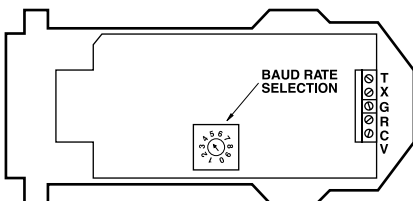

Figure 2. Baud Rate Setting Switch.
3. Set the baud rate switch to the desired setting as shown in **Table 1**. The factory default is 9600 bps. See **Figure 2** for the location of the switch. The switch settings for the available baud rates are printed on the underside of the circuit board. Remove the circuit board from the case to access this information.